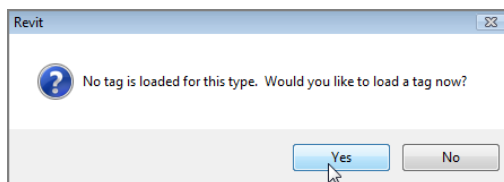

FIGURE 11.64: When you try to tag an item without a specific tag type loaded, this dialog prompts you to load the tag.
6. Many times, you won't have a tag loaded for this specific type of item. If that situation occurs, you'll get the message shown in Figure 11.64. If you want to load a tag, click Yes to do so. If you don't, proceed to step 14.